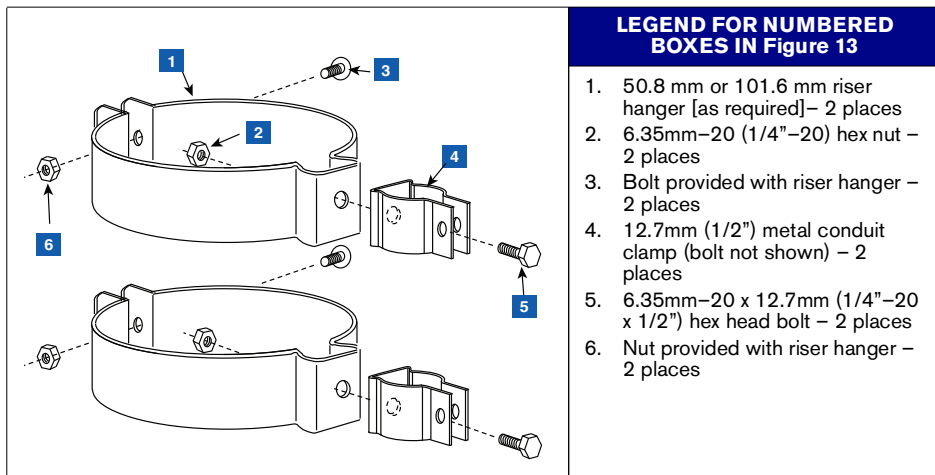

Figure 13. Attaching 12.7 mm [1/2"] Conduit Clamps to Riser Hangers
1. Attach the two 12.7 mm [1/2"] conduit clamps to the two riser hangers from the installation hardware kit (330020–528 or 330020–835) (50.8 mm [2"] or 101.6 mm [4"], as required) as shown in Figure 13. Orient riser hangers so holes for 12.7mm (1/2") clamps (Item 4) are vertically aligned.